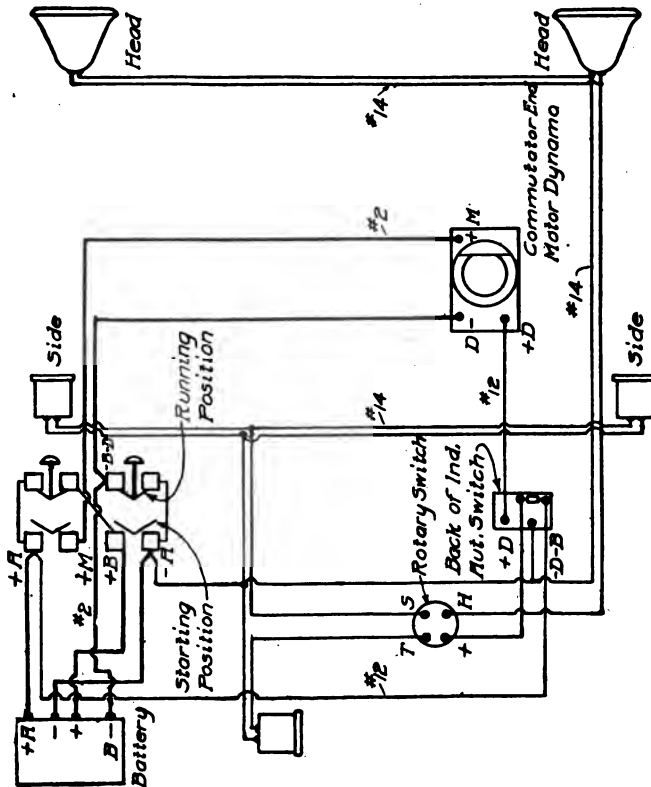

Fig. 325. Wiring Diagram of Splitdorf-Apelco Twelve Six-Volt Single-Unit Two-Wire System
**Wiring Diagram.** As the lamps are run on 6 volts, the 6-cell battery is connected as two units of 3 cells each for lighting, and these units are connected in series-parallel for charging, as the dynamotor produces current at 6 volts. The remaining details of the connections will be clear in the wiring diagram, Fig. 325.